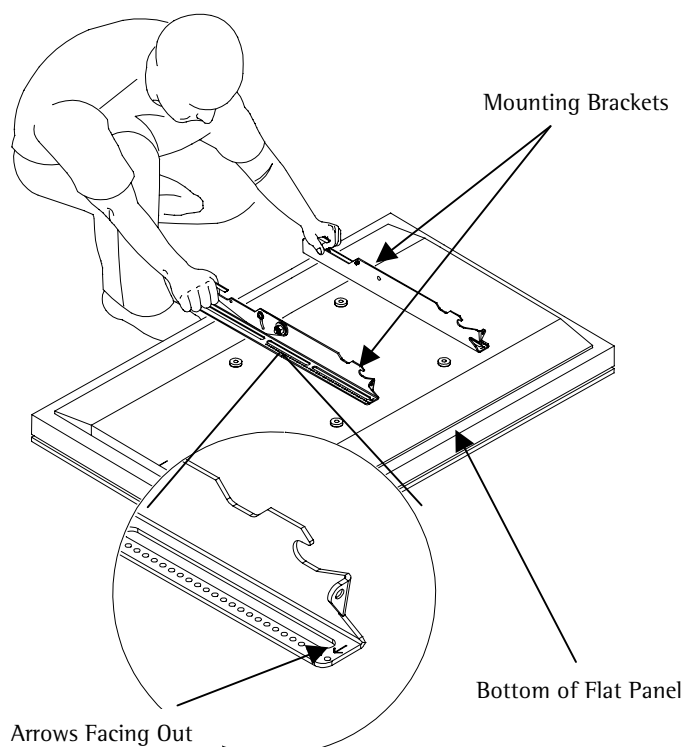

Figure 7
4. Lay the left and right mounting brackets (stamped arrows facing out) - (Figure 7).